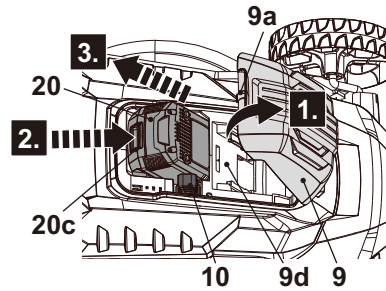

Fig. 11
1. Pull open the battery cover (9) by disengaging the latch (9a) (Fig. 11, step 1).
2. Squeeze the release button (20c) to unlock the latch of battery pack (20) (Fig. 11, step 2).
3. Slide out the battery pack (20) from the battery compartment (9d) (Fig. 11, step 3).
4. Close the battery cover (9) to ensure that the latch (9a) snaps in place.